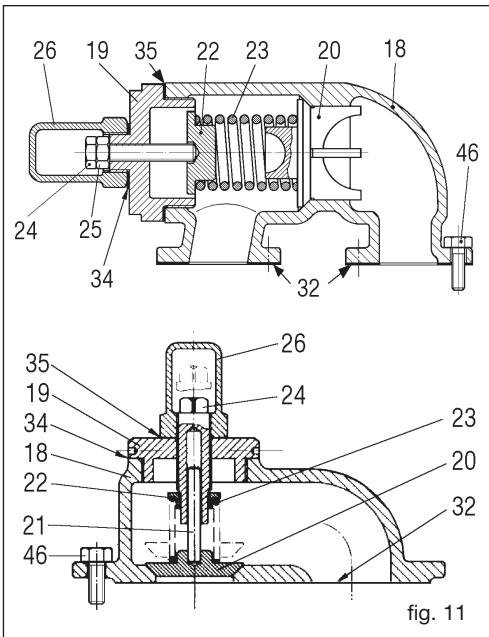

fig. 11
### 10.5 Regulation of the by-pass relief valve (fig. 11)
- If the pump mounts a by-pass relief valve (figure 11) on the cover (07) it is not necessary to remove it. If, however, the by-pass also requires maintenance, unscrew the screws (46) and remove it, taking care not to damage the gasket(s) (32). If the gaskets are damaged, replace them.